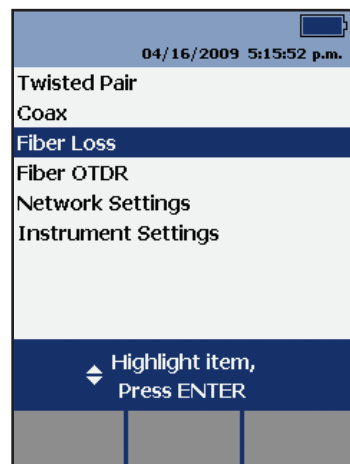
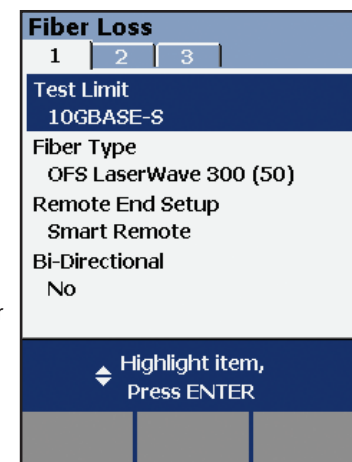

Figure 2
Figure 3
- Select Fiber Loss from the Setup screen as shown in **figure 2**. Under this setup screen, choose from a menu of standards to select the correct limits. Select the Test Limit option as shown in **figure 3**. Note that the selected fiber type limits the test limit choices. Popular fiber types are also included in the instrument menu.
As **figure 3** shows, the same setup screen allows you to select the “Remote End Setup”. When using the DTX Smart Remote equipped with the fiber test module, select “Smart Remote” as we have done in this example. In this mode, the tester automatically measures the length of the link-under-test.
Bidirectional testing – If you want to test each fiber in both directions, don't forget to select that option in the setup screen (see **Figure 3**). When the tester prompts you to make the connection to test in the second direction, remember to switch the TRC at the link end. DO NOT remove the TRCs from the tester connections.